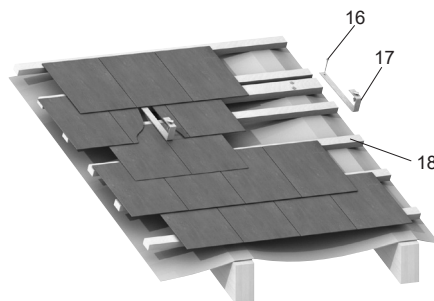

Figure 4-11: Fixing Mounting Battens and Roof Anchors
3. Refer to Figures 4-11 and 4-12. Mounting battens (18) are fixed with screws to the rafters at a distance of 185mm from the roof batten below.